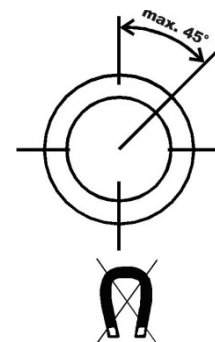

Fig. 1
- ↳ The switches should only be installed in a vertical position, deviation max. 45° (→ Fig. 1).